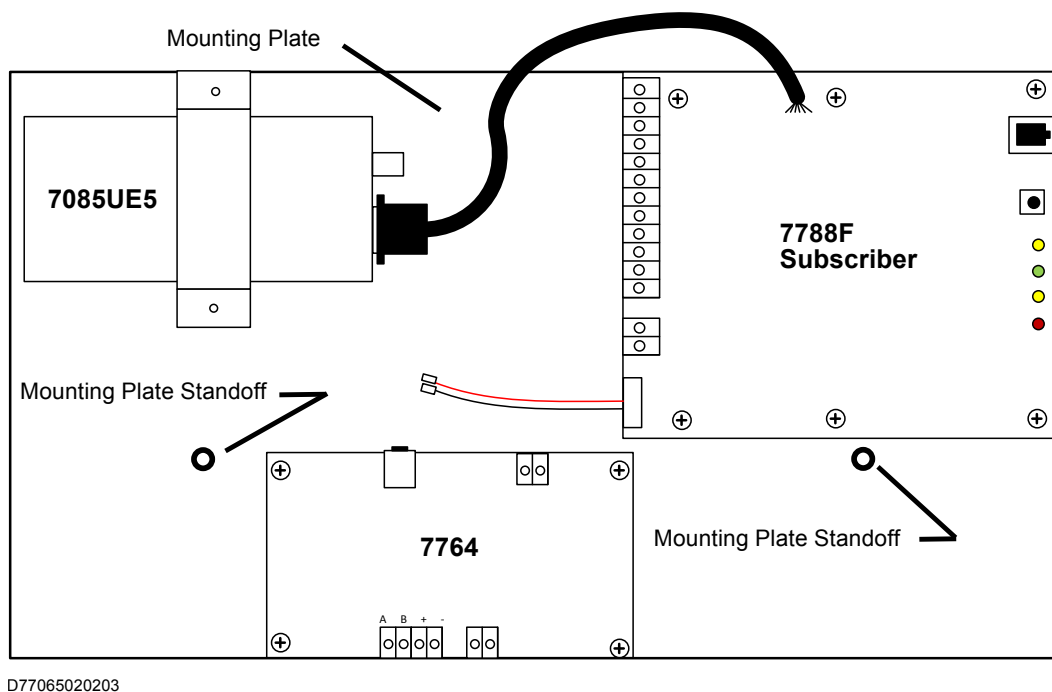

Figure 10. Subscriber Mounting Plate
3. Remove the two screws holding the mounting plate to the cabinet. See Figure 10 for screw location labeled mounting plate standoff. Lift the mounting plate upwards, approximately 1/2", in order to clear the cross-beam of the cabinet on which the mounting plate rests. Remove the mounting plate and set aside.